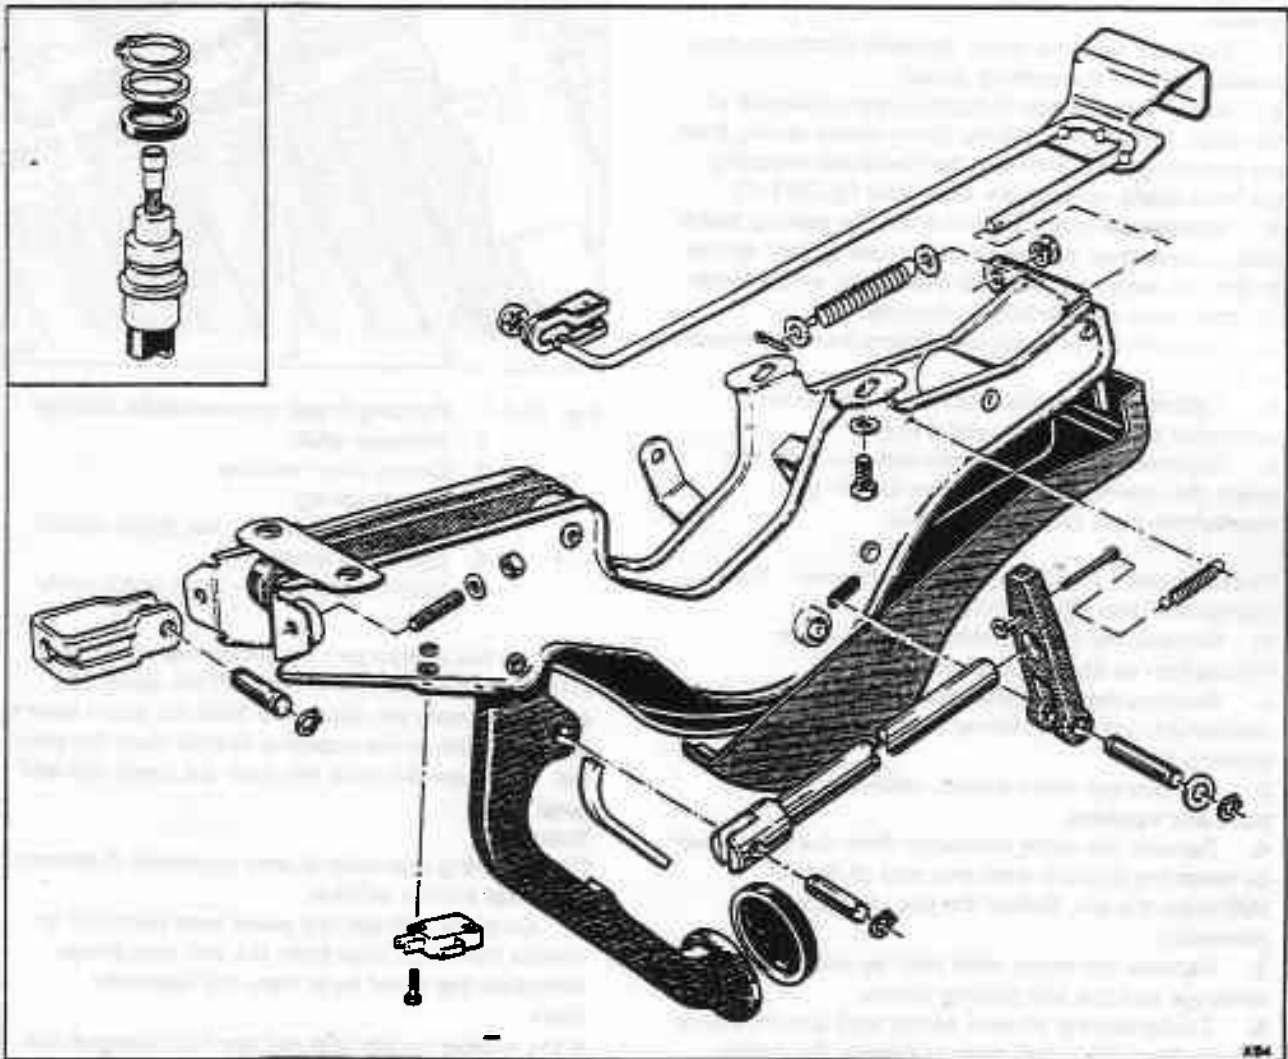

Fig. G17-2 Foot operated parking brake and cable connection
### Foot operated parking brake mechanism - To dismantle (see fig. G17-2)
**Foot operated parking brake mechanism - To assemble (see fig. G17-2)**